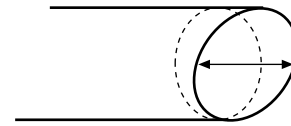

Figure 7c: Measure across the sloping end.
- (c) Sloping cut, - measure along the short axis as shown in Figure 7c.